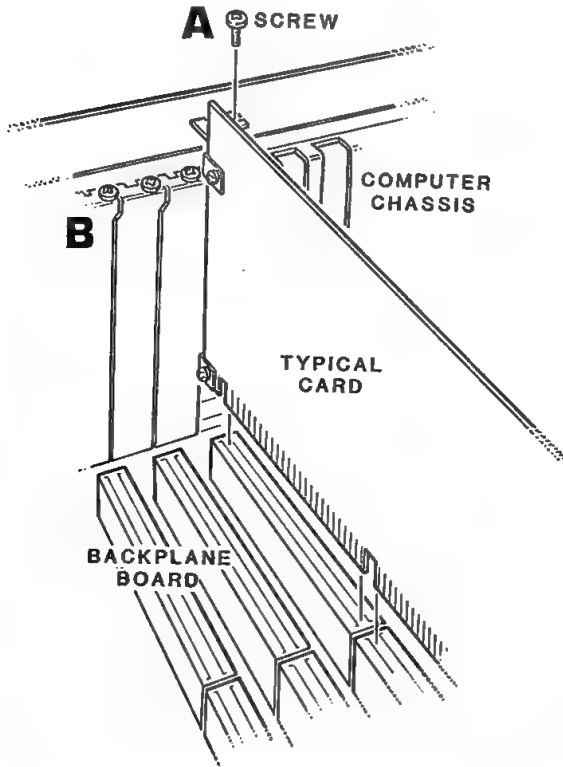

Figure 4-2: Card Support Brackets and Blank Brackets
**CAUTION:** Switch off the computer and unplug the power cord before you remove any cards. Cards can be damaged if the power is on when they are removed. To replace a card in the computer, follow this procedure (refer to Figure 4-2):
- Remove the screw securing the card to be replaced (labeled A in Figure 4-2).
- To install a card, position the card edge connector directly over the slot on the backplane board and apply gentle downward pressure until the card is firmly seated. Reinstall the screw (labeled A in Figure 4-2) and connect the card to all appropriate internal and external cables.
- To add an optional card, remove the screw from the top of a blank bracket (labeled B in Figure 4-2). Do not discard the screw; you will need it to secure the optional card. Optional cards may be installed in any open slot in the backplane board.